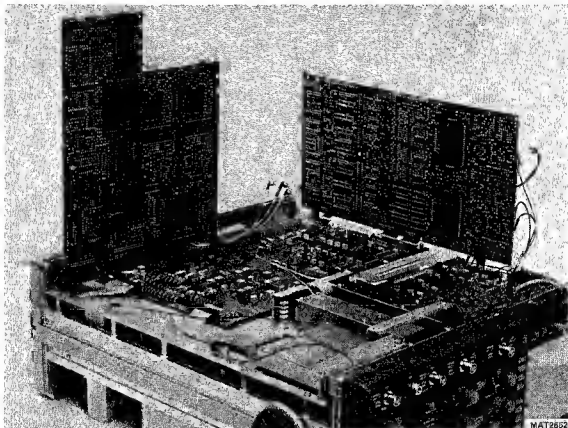

Figure 10.3 Access to the management unit and the CCD logic unit.
To get access to the management unit A25 and the CCD logic unit A26 the P2CCD unit A33 and the vertical signal unit A32 can be turned up as shown in figure 10.3.
- Turn the unit up and place it on the two supports as shown in figure 10.3.